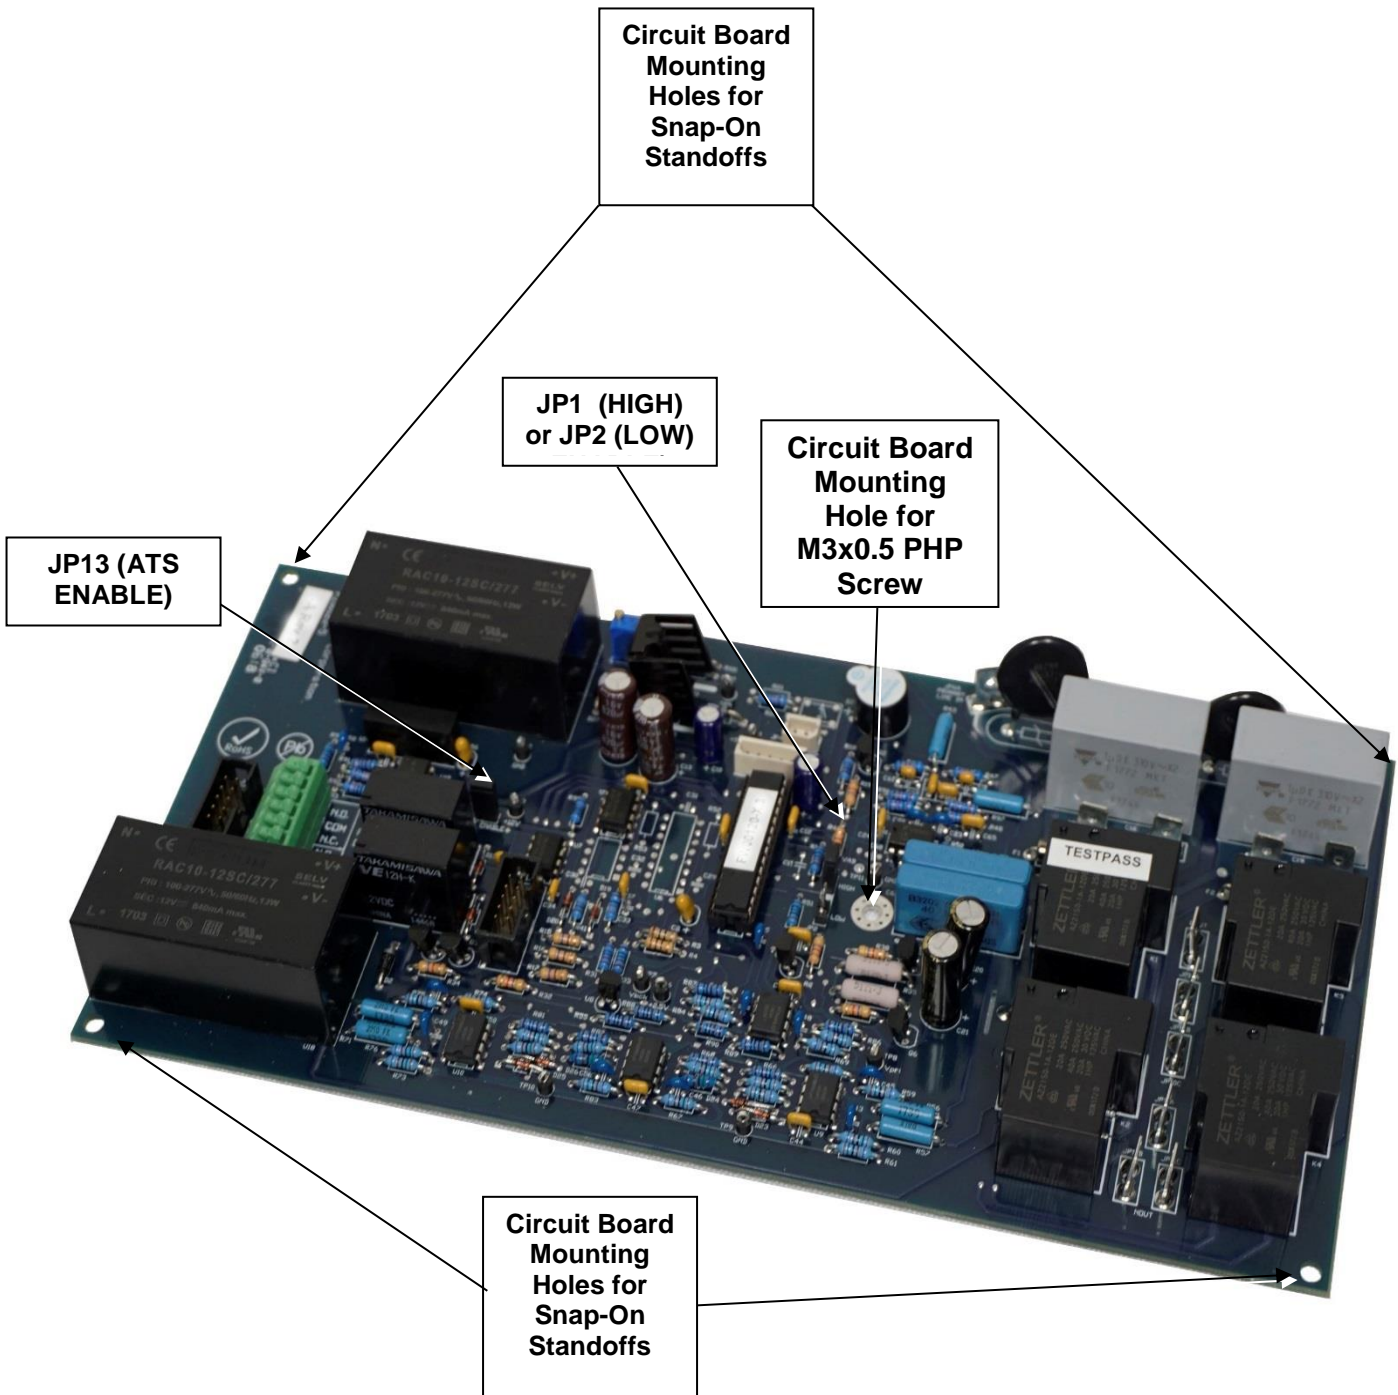

Figure 10: PZ00120-5 Main Control Circuit Board Assembly for ATS-800-2000, -3000, -4000, -5000, -6000 and -7000 models
2.2.1 Main Control Circuit Board Assemblies (See Figures 10 and 11)
- 3.44 Locate the jumper at JP1 (HIGH) or JP2 (LOW). See Figures 10 or 11.